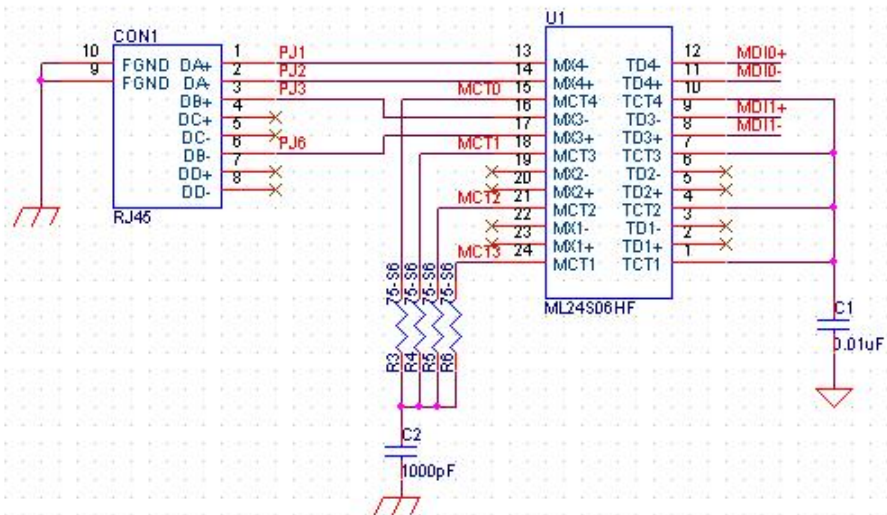

Figure 12. Separate Transformer
- When using a separate transformer, all center-tap pins MUST be aggregated (pins 7, 10; Figure 12) (C1 Value: $0.01\mu\text{F}\sim 0.4\mu\text{F}$)